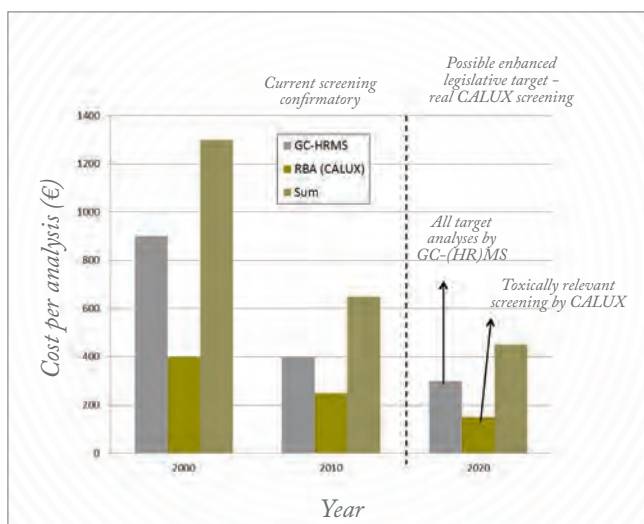

Figure 3. Evolution of the relative costs of screening and confirmatory analyses.
Such confirmatory analysis speed forces us to reconsider the wisdom of following the screening-confirmatory approach. As shown in Figure 3, prices have drastically decreased since the 1999 dioxin crisis era and this trend is expected to continue for the next few years. Perhaps it is time to revise the strategy by using only confirmatory tools to monitor the food-feed web for PCDD/Fs and selected PCBs – this could be renamed the ‘legislative target approach’.
Figure 3. Comparison of full gradient (dotted line) and shift gradient (solid line) in fractions 29 (upper chromatogram) and 80 (lower chromatogram) of an LCxLC analysis from an aqueous extract of *Hedyotis diffusa* and *Oldenlandia diffusa*, with corresponding gradient programs on the right.
Undoubtedly, the shift gradient increases the separation power in the second dimension significantly as shown in Figures 3 and 4 (2).